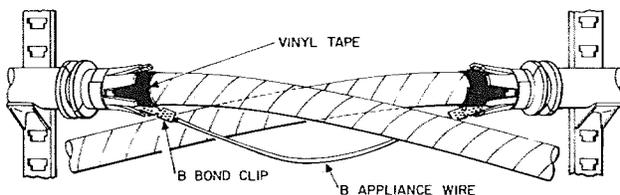

Fig. 15—B Bond Clips and B Appliance Wire Installed
3.12 Connect the B bond clip to the end of the aluminum shield under one of the tabs at each end of the sheath opening. The clip should cover only the outer 3/8 inch of the **aluminum** tab and shall be pressed onto the tab using B pressing pliers. A completed installation is shown in Fig. 15.